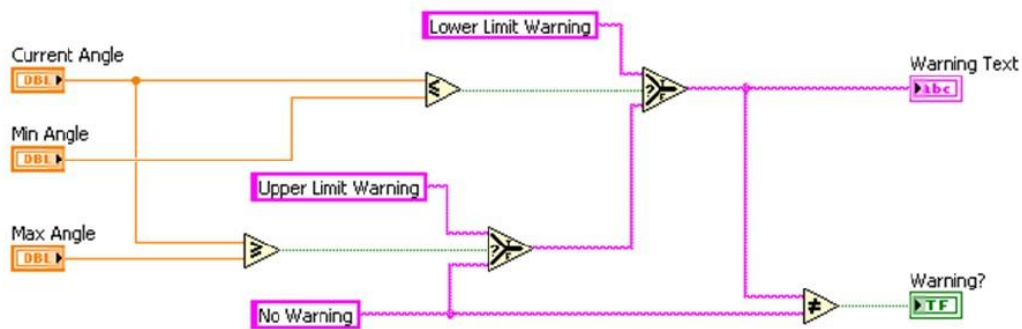

Figure 4.3 Determine Warnings VI Block Diagram
9. Complete the following instructions to create a block diagram similar to Figure 4.3.